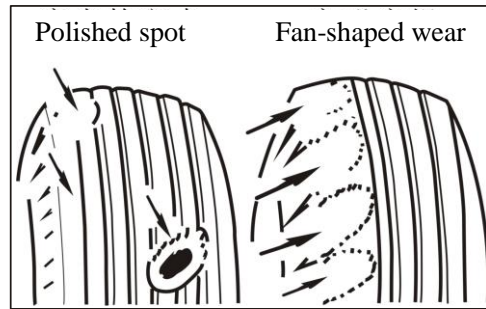

Figure 4-78 Spotted and Fan-shaped Wear on Tire
(1) Failure symptom: The polished spot exists on part of tread is salient point (as shown in Figure 4-78).
(2) Fault diagnosis: This kind of wear is related to wheel dynamic unbalance. When the wheel is out of dynamic balance, the vibration of wheel will cause directional wear of tire, and then result in spotted wear.
(3) Fault cause and elimination method: Tire with spotted wear is out of dynamic balance, and dynamic balancing shall be carried out.
(1) Failure symptom: Fan-shaped wear occurs on one side of tread, as shown in Figure 4-78.